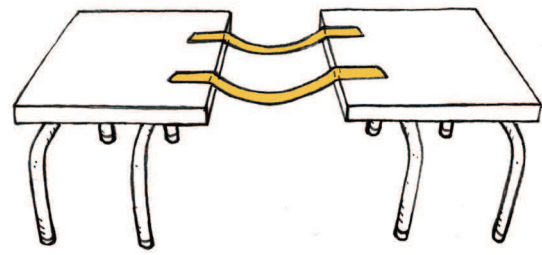

Figure 17
- Do you think this suspension bridge in Figure 17 will be strong enough to support a small bird walking on it?